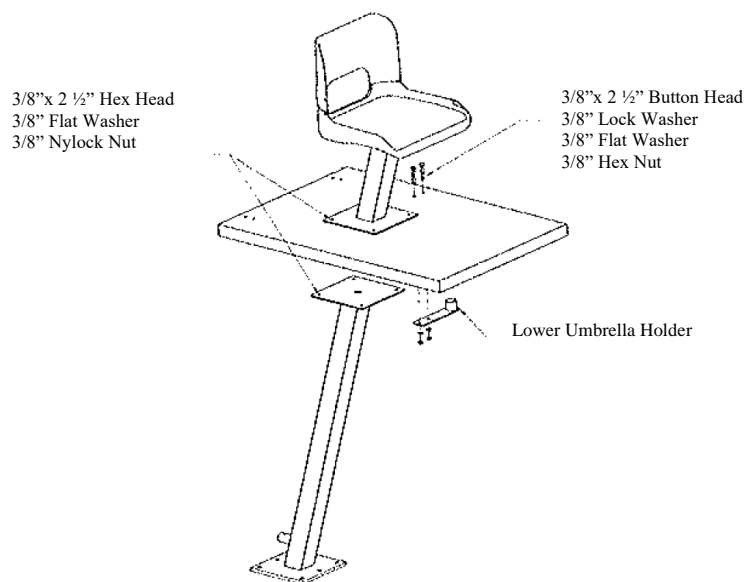
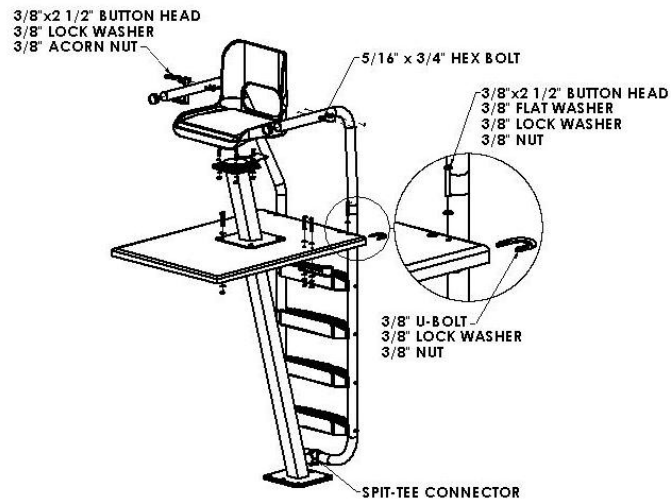

Figure 5
Figure 6
Step 2. Locate the Footboard and the Main Support Column. If you have not preordered the Guard Chair Anchor, it will be shipped attached to the Main Support Column. Remove the Anchor using a 3/4" wrench or socket. Instructions for setting the Anchor are included. Using the hardware shown in Figure 5 below, "sandwich" the Footboard between the Main Support Column and the Seat Pedestal. Next, attach the Lower Umbrella Holder to the Footboard using the hardware shown in Figure 5.
Step 3. Locate the Ladder-Handrail Assembly. Attach the Ring Buoy Holder and Upper Umbrella Holder to the Handrail using the hardware shown below in Figure 5. Attach the Ladder-Handrail Assembly to the Platform and Support Column using the hardware shown in Figure 6.